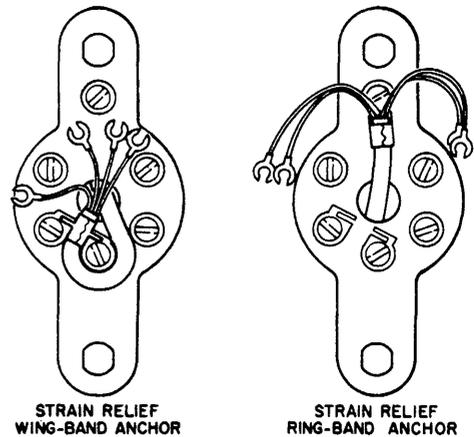
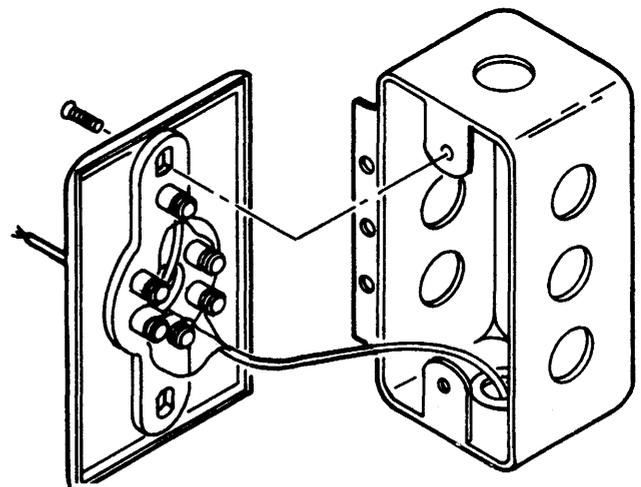

Figure 38. Installing Line Cord to Model 1105 Connecting Block.
Figure 39. Installing Model 1105 Connecting Block in a Conduit Box.
7.18 The Dracon Model 1105 connecting block may be used when a rectangular electrical conduit box is provided for telephone wiring. The line cord is installed as shown in Figure 38, and the block is installed in the conduit box as shown in Figure 39.